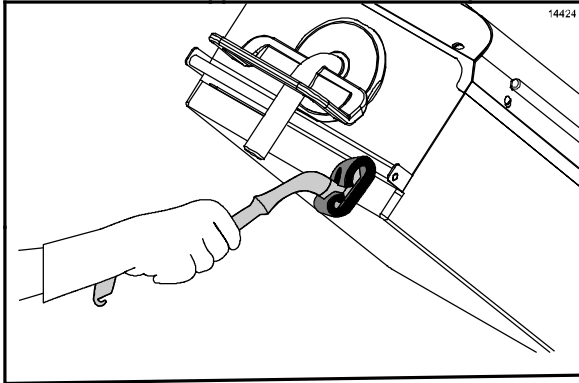

Figure 56
24. Using the Kay Grill Cleaning Pad Holder, scrub the front side of the platens from the right platen to the left platen. (See Figure 56.)